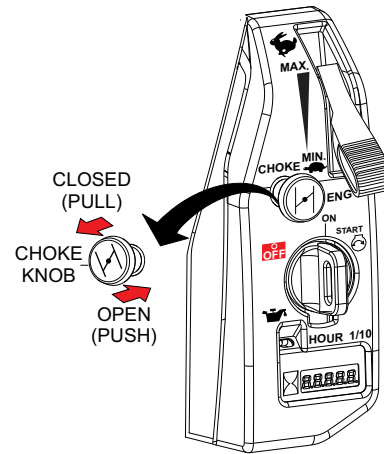

Figure 13. Engine Choke Lever
3. If starting a cold engine, **pull** the choke lever outward (Figure 13) to the **CLOSED** position.
4. If starting a warm engine or the temperature is warm, **push** the choke lever inward (Figure 13) to the **OPEN** position.
- Before operating, place the choke lever (Figure 13) in the **OPEN** position.